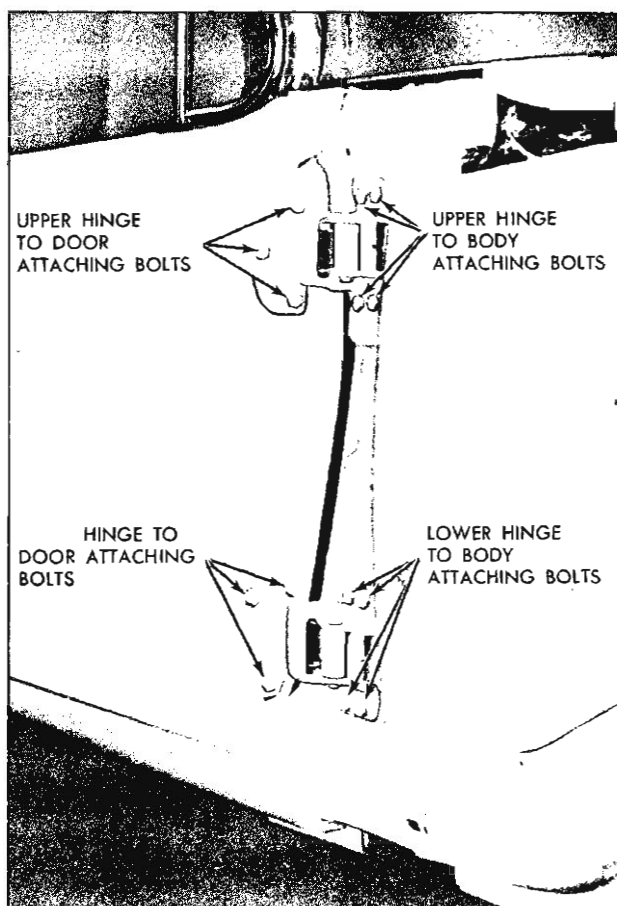

Fig. 24—Front Door Hinge Attachment
5. With door properly supported, remove bolts securing upper and lower hinges to front body hinge pillar or door hinge pillar. With aid of a helper, remove door assembly from body (fig. 24).
1. For in and out or up and down adjustments, loosen hinge to door pillar attaching bolts (fig. 24). Adjust door as required and tighten bolts.
2. To adjust door fore or aft, loosen hinge to body pillar attaching bolts (fig. 24). Adjust door as required and tighten bolts.